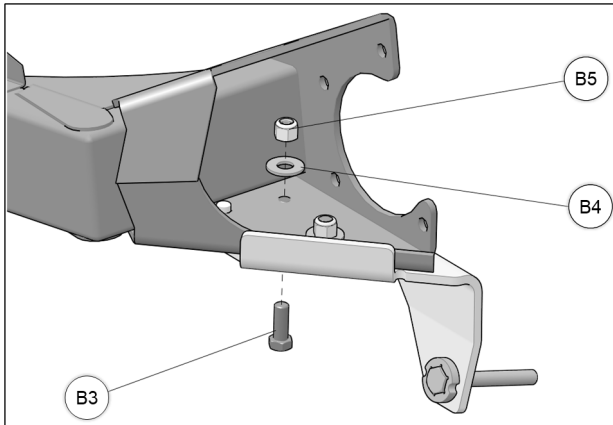

Fig. 10
- Insert a 3/8-24 mounting bolt (**B3**) from the bottom and secure bolt with provided nut (**B5**) and washer (**B4**). Tighten assembly to 40 N•m [37 lb•ft] of torque. See Fig. 10